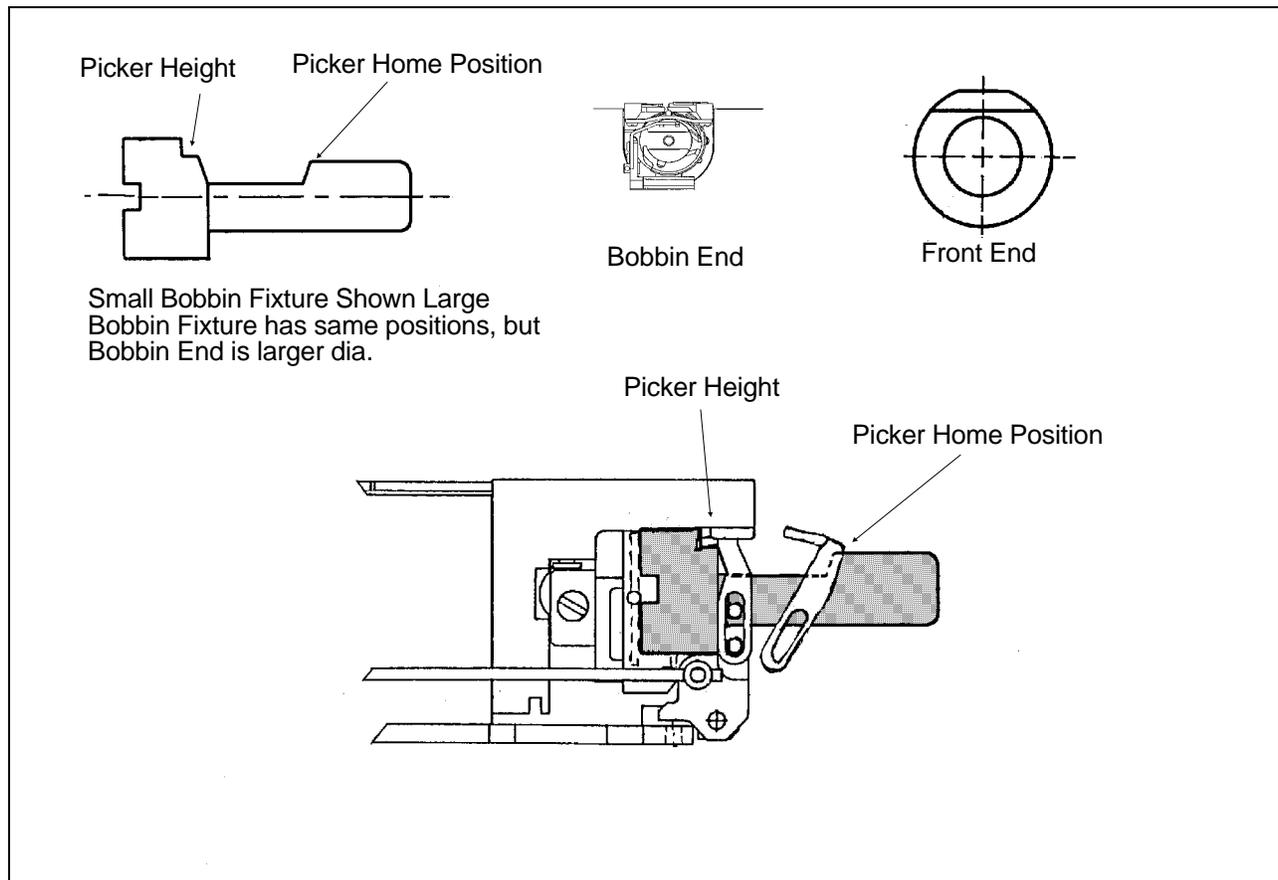

Fig. 2-13
4. Insert the Picker Fixture "fat end" first with the flats facing up into the Hook Assembly where the Bobbin would go. See Fig.2-13.
5. Push the Picker forward until the tangs touch the Fixture in the area shown as "PICKER HEIGHT" also shown in Fig. 2-13.
6. With the Picker at Home Position the rear surface of the Picker should touch the area of the fixture marked "PICKER HOME POSITION" shown in Fig.2-13. Before making any adjustments go to step 6 and check the "PICKER HEIGHT" first.
7. Look at the picker headon when its at HOME POSITION, the tangs should be centered on the Bobbin Shaft. See Fig.2-13. If the tangs are not centered on the Bobbin Shaft loosening the two Pan Head screws on the Picker Bracket will allow side to side movement to adjust. Once the tangs are again centered on the Bobbin Shaft tighten the two Picker Bracket Screws.